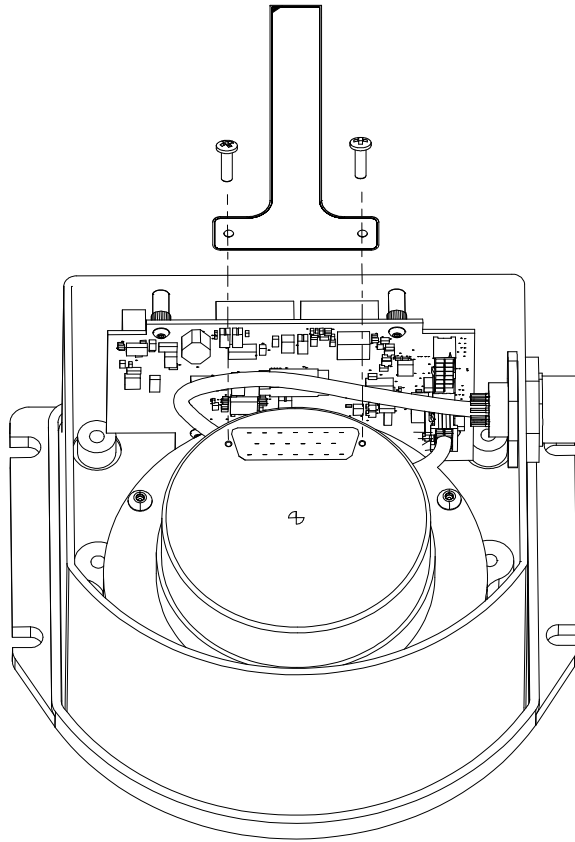

Figure 60: Attach Flex Cable
1. Attach the flex cable to the HG1700 sensor ensuring that all the pins are fully connected. Check also that the pins are fully seated and that the flex cable stiffener around the pins is not bent upward, see *Figure 60*.
3. Connect the opposite end of the flex cable to the corresponding connector on the IMU card ensuring that the contacts on the flex cable mate with the contacts on the connector, as shown in *Figure 60*.